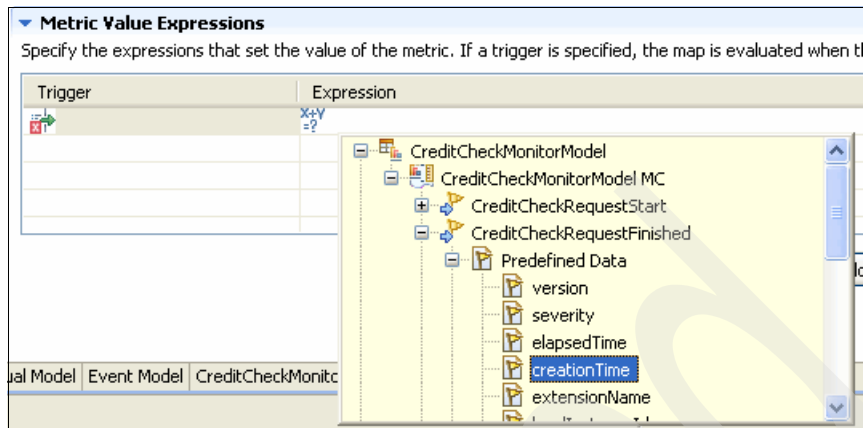

Figure 10-59 Metric Value Expression builder
- b. In the Metric Value Expressions section (Figure 10-59 on page 709), click in the Expression column and press Ctrl+Spacebar to be prompted with an expression builder. Expand **CreditCheckMonitorModel** → **CreditCheckMonitorModel MC** → **CreditCheckRequestFinished** → **Predefined Data** and select **creationTime**.